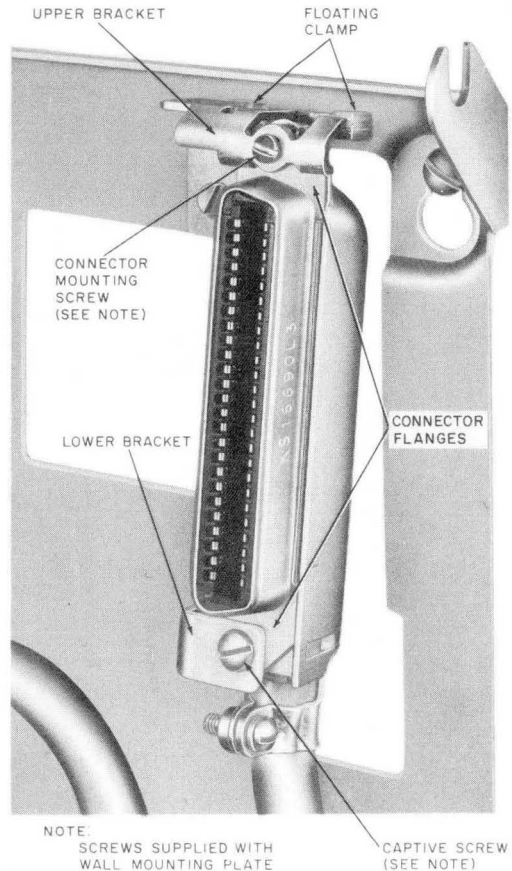

Fig. 15—Detail of Connector Mounting on Wall Plate
(1) Attach the wall mounting plate to the wall using four No. 8 screws. Place a spacer, supplied with the set, on each screw so that the plate stands off from the wall.
(2) If the cable connector has a screw at the end, remove and discard the screw.
(3) Remove the connector mounting screw (Fig. 15) from the top of the connector bracket on the wall plate and save for Step (6). (The lower bracket screw is captive to the bracket and should be left in place.)
(4) Position the cable connector on the mounting brackets with the flange on its outer end between the stationary upper bracket and the floating clamp, and the flange on its lower end under the lower bracket (Fig. 15).
(5) Start the lower bracket captive screw through the lower flange of the connector so that the connector is held loosely on the wall plate.
(6) Put the mounting screw removed in (3) back into the upper bracket and run it through the flange of the connector and into the floating clamp. Tighten the screw enough to pull the floating clamp up firmly against the underside of the flange, but **do not overtighten**.